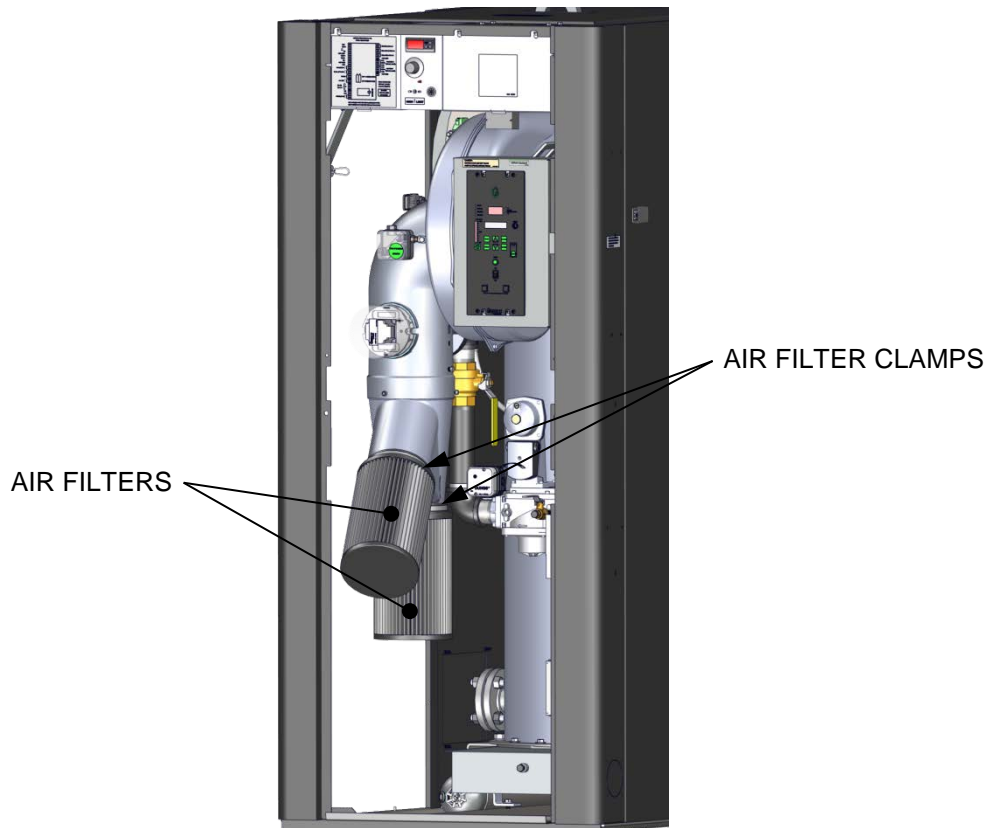

Figure 4-11: Air Filter Location
Benchmark 5000 and 6000 boilers are equipped with two air filters (P/N **88014**), which should be cleaned and re-oiled every 12 months and replaced every 24 months. The air filter is located at the air fuel valve inlet, as shown in Figure 4-11.
3. Refer to Figure 4-11 and locate the air filters attached to the WYE duct connected to the air/fuel valve inlet.